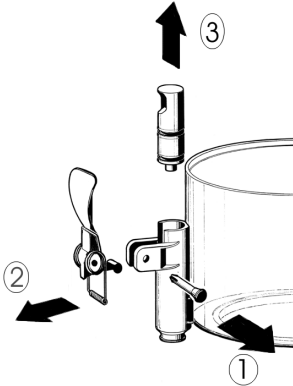

figure 1
- 3 Dismantle the faucet following the sequence shown (see fig. 1).
**3** Reassemble the faucet assembly on the container in the opposite way to which it was dismantled (see fig. 1).